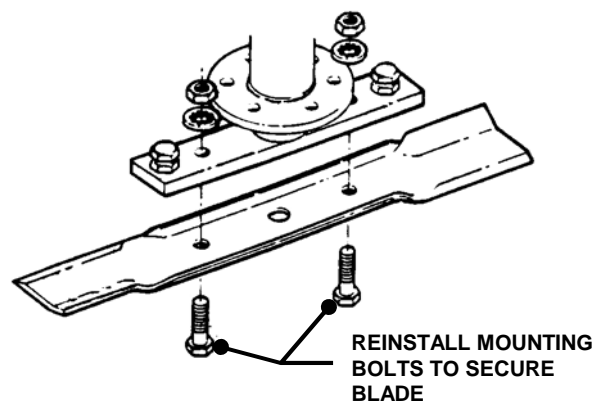

FIGURE 4.14
5. Remove blade(s). See Figure 4.14.
9. Reinstall blade. See Figure 4.14. Torque blade mounting bolts to recommended range of:
1. Remove blade(s). See Figure 4.14. Replace blade(s) if it shows signs of excessive wear or damage. Use Part Number 1-9523 for replacement 33" blade.